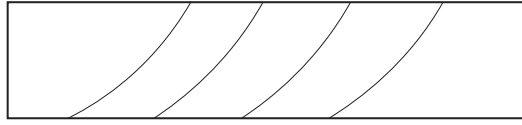

Fig. 2
- 4 Fig. 2 shows the end of a length of wood.
Draw on Fig. 2 to show a groove and a rebate.